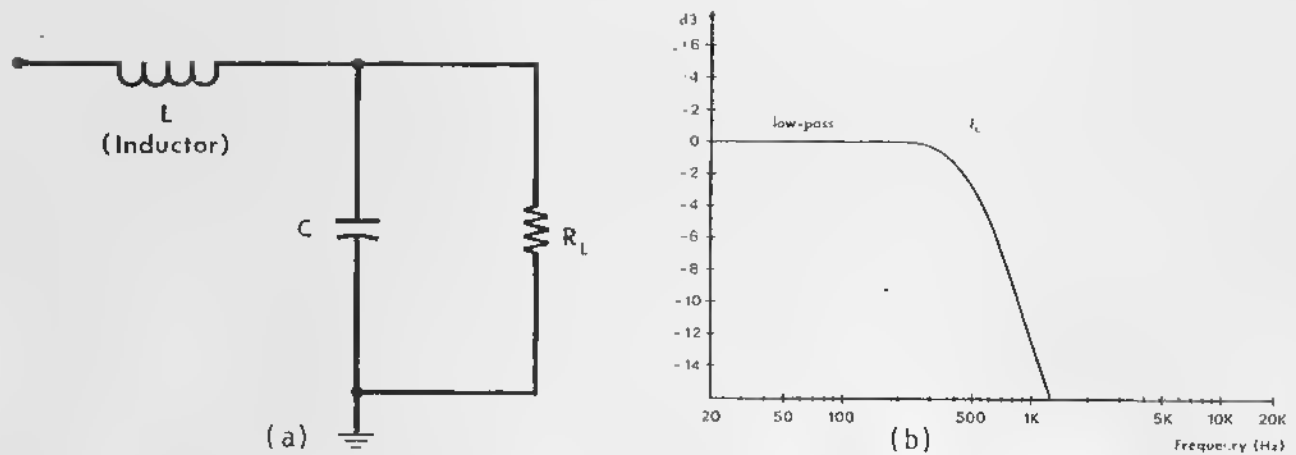

Figure 24 Passive LC 2nd order low-pass filter and response.
High frequency loudspeakers will be better protected by a steeper slope, which can be obtained with a second-order filter such as the passive LC second-order filter shown in figure 24. Here, there are two frequency-reactive components: a capacitor (C), which easily passes high frequencies, and an inductor (L), which easily passes low frequencies. The slope will be 12dB/octave.